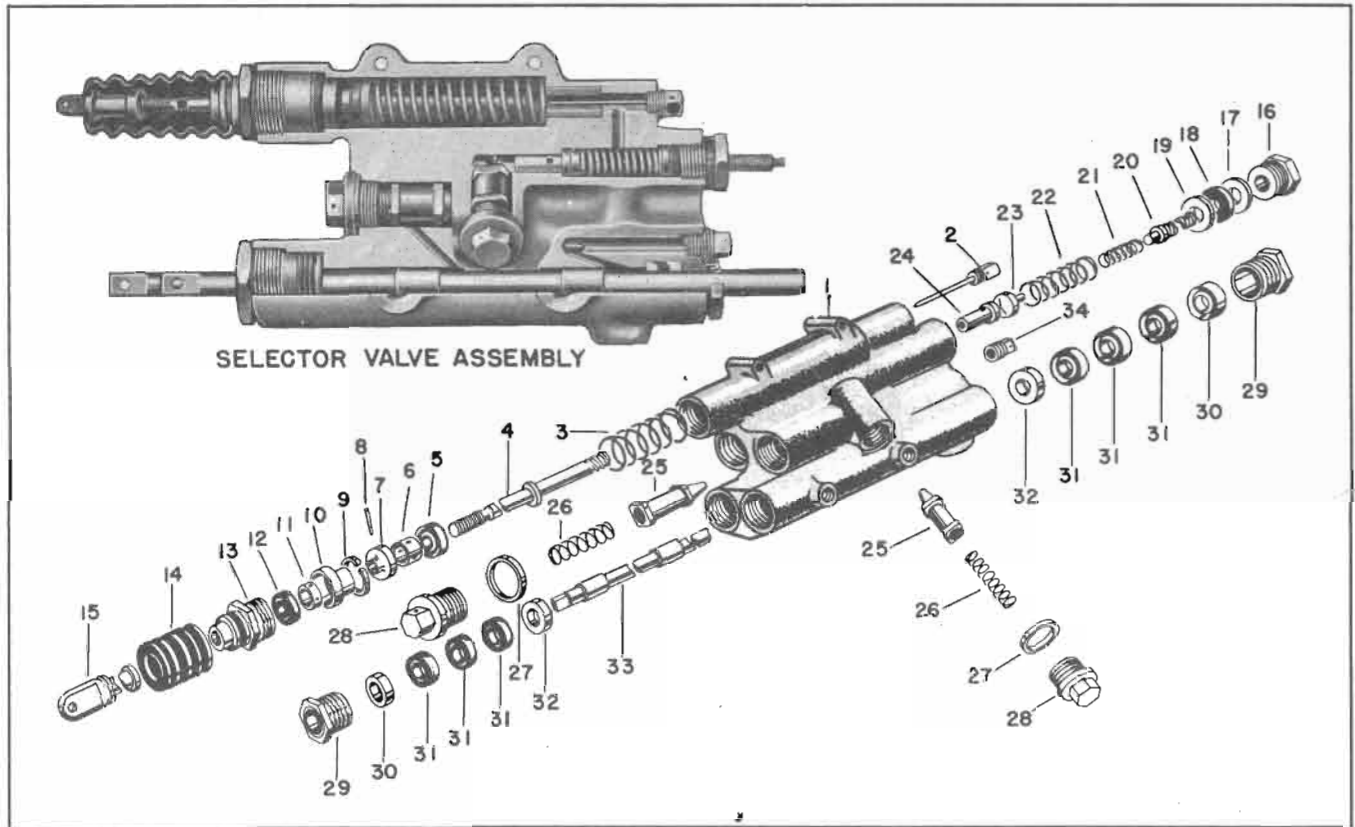

Figure 210 — Selector Unit
(2) SELECTOR VALVE UNIT.—(See figure 210.)